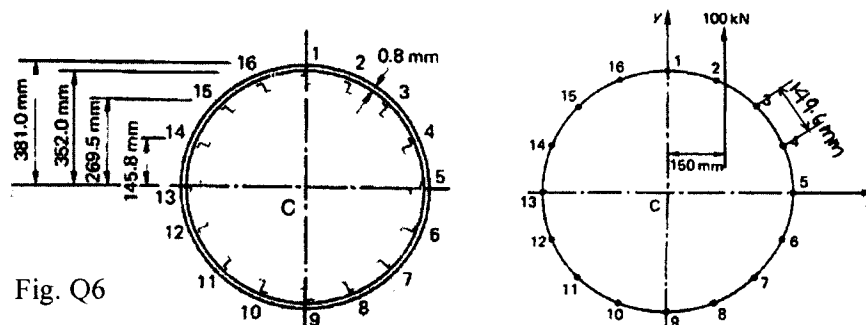

Fig. Q6
- 6 The fuselage is subjected to a vertical shear load of 100kN applied at a distance of 150mm from the vertical axis of symmetry as shown from idealized section in fig. Q6. Calculate the shear distribution flow in the section. (20 Marks)